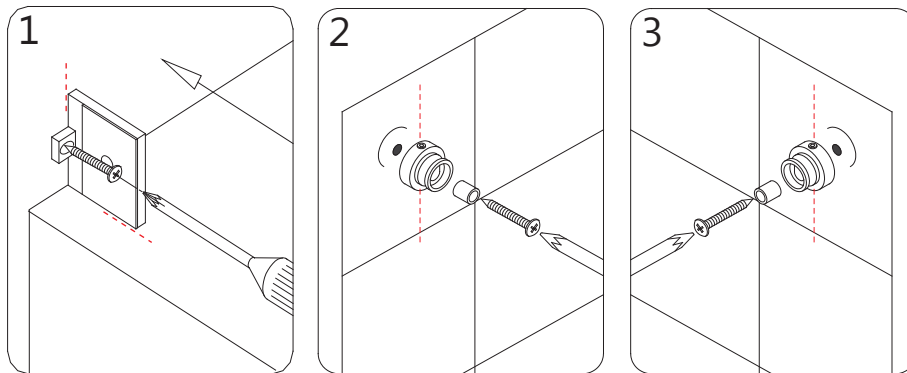

Fig. 11
10. Fasten the **Wall Bracket (#19)** to the wall using the **Truss Head Screw ST4.2×55 (#18)**. Mount the base part of the **Guide Rail Brackets (#08)** onto both walls using the **Large Truss Head Screw ST6×65 (#10)**. Note that the adjustment **Set Screws on the brackets must be aligned vertically** for easier access to adjust for level after the glass is installed. (**Fig. 11**)